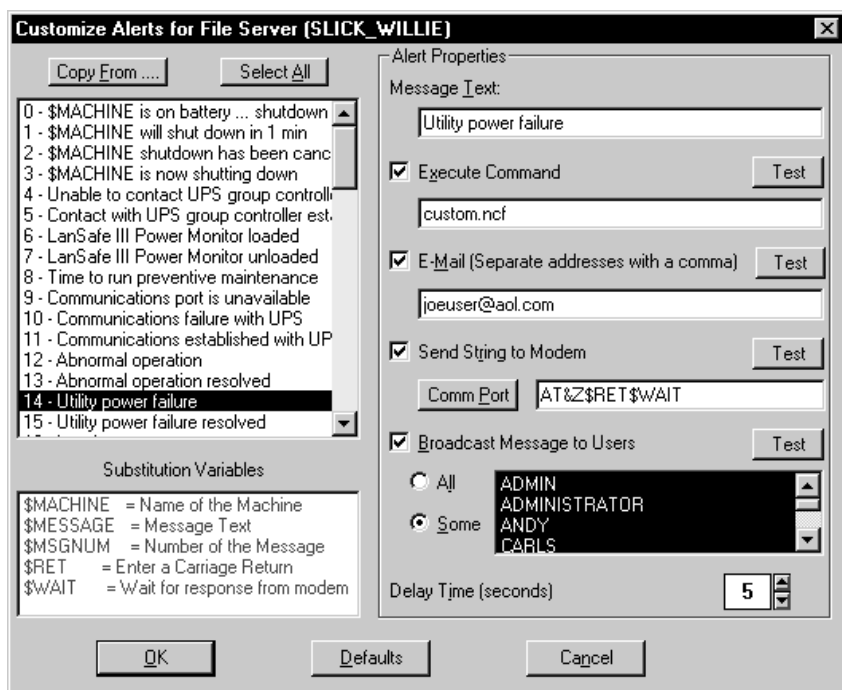

Figure 3-3. Customize Alerts Dialog Box
1. Choose Customize Alerts from the Setup menu to open the Customize Alerts dialog box (Figure 3-3).